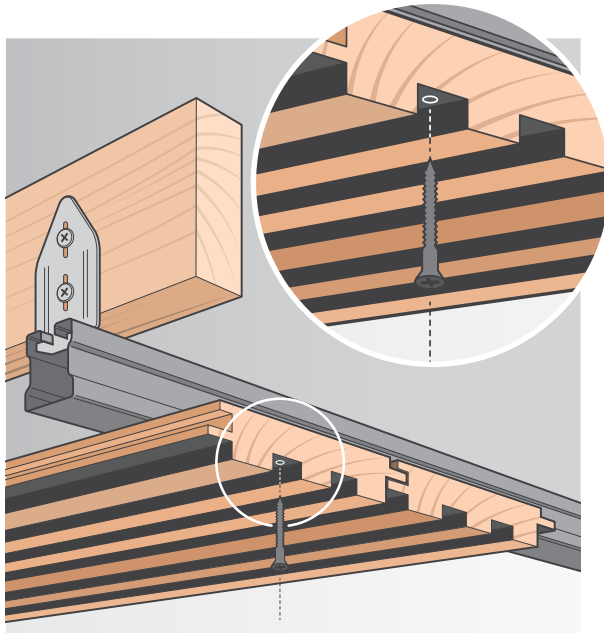

Figure 3: Panelling installation using metal track system and face fix: face screw directly using a coloured head screw (see Figure 4).
- **Castelation® panelling with channels** can be screwed through the channel to the metal track. One screw per board, per track is sufficient (see Figure 3). This works particularly well with the Castelation® TwoTone product as the screw heads can be painted the same colour as the channels.